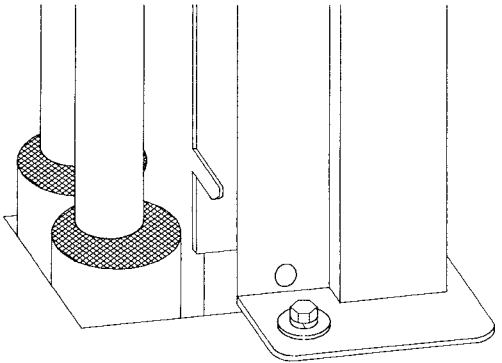

Fig. 25—Sealing Ducts With B Caulking Compound
5.11 Replace the 3-piece cover plate, install plugs (furnished with the cabinet) in the unused openings in the plate, secure cable ends inside the cabinet, and close the cabinet doors. Seal the space between the cables and conduit with B caulking compound (Fig. 25) and seal vacant conduit with conduit plugs. Seal the space around cables where they enter the cabinet with B caulking compound.